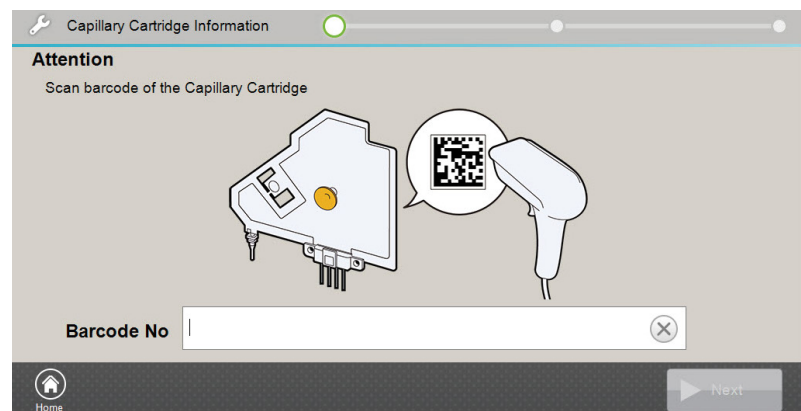

Figure 31. 'Capillary Cartridge barcode scanning' screen.
2. Select **Install** in the footer to start the replacement wizard. This displays the 'Capillary Cartridge Barcode Scanning' screen (Figure 31).